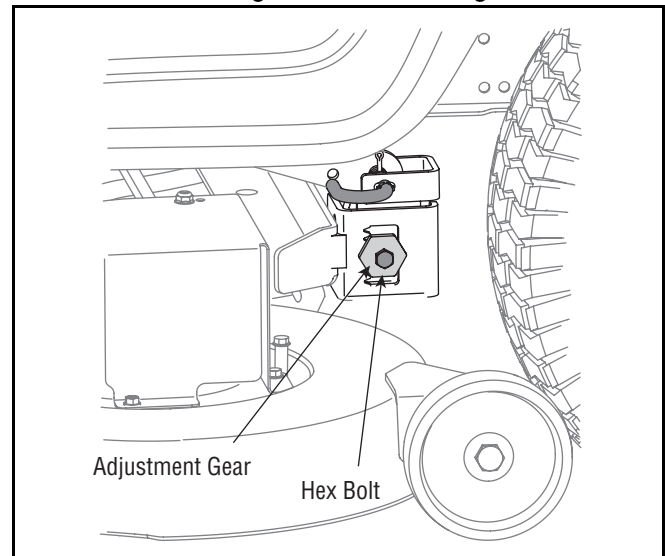

Figure 17
- Locate the two lock nuts on the front side of the stabilizer bracket. See Figure 17. Tighten the lock nuts to raise the front of the deck; loosen the lock nuts to lower the front of the deck.
- Loosen, but do NOT remove, the hex cap screw on the left deck hanger bracket. See Figure 17.